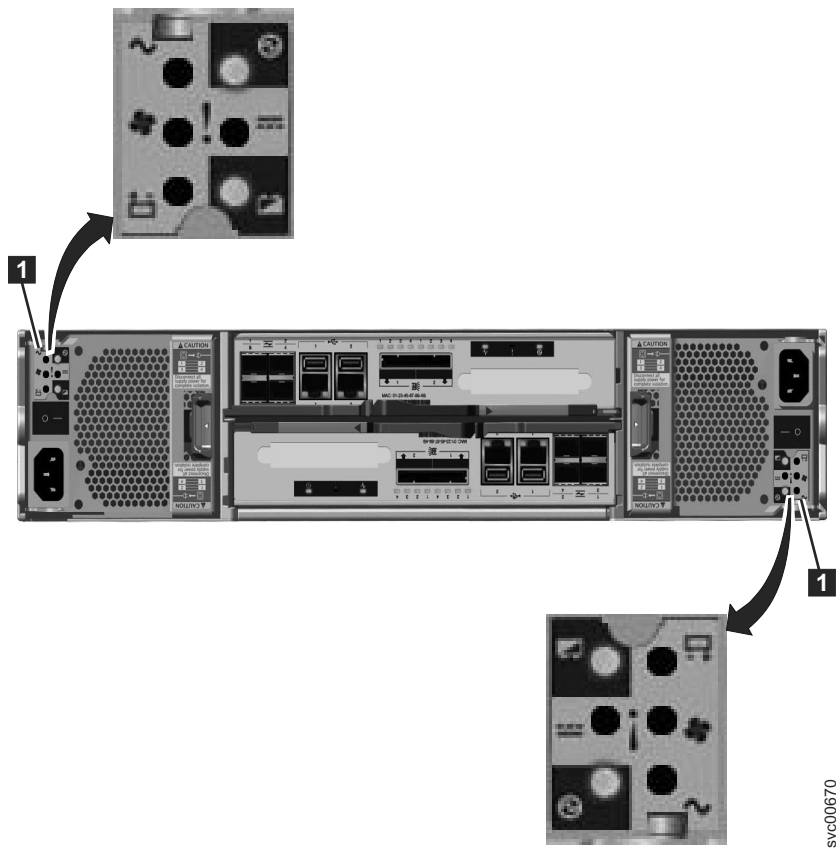

Figure 21. LEDs on the power supply units of the control enclosure
1. Use the state of the ac power failure, power supply OK, fan failure, and dc power failure LEDs on each power supply unit in the enclosure to determine if there is power to the system, or if there are power problems. Figure 21 on page 55 shows the LEDs on the power supply unit for the 2076-112 or 2076-124. The LEDs on the power supply units for the 2076-312 and 2076-324 are similar, but